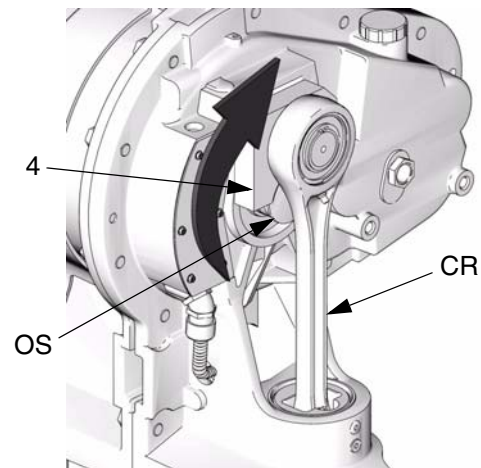

FIG. 3. Rotate Crank Arm
9. See FIG. 3. Rotate the crank arm (4) to allow it to be removed from the output shaft (OS).
10. Pull the crank arm/connecting rod/slider piston assembly (CR) up and out of the cylinder.
11. Remove the old bearings (8).